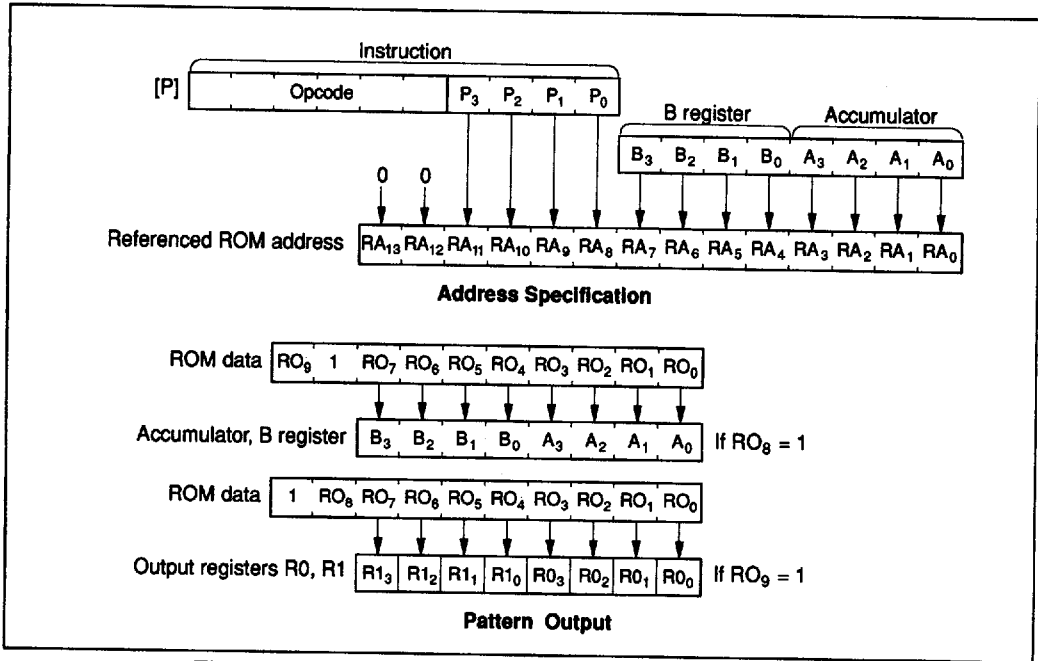

Figure 54-1 P Instruction (HD404728, HD404729, HD4074729)
**P Instruction:** ROM data addressed in table data addressing mode can be referenced with the P instruction as shown in figures 54-1 and 54-2. If bit 8 of the ROM data is 1, eight bits of ROM data are written to the accumulator and the B register. If bit 9 is 1, eight bits of ROM data are written to the R1 and R2 port output registers. If both bits 8 and 9 are 1, ROM data is written to the accumulator and the B register, and also to the R1 and R2 port output registers at the same time.